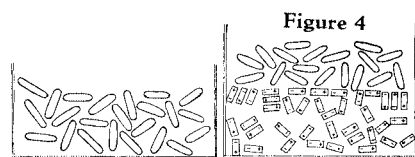

Figure 3
**T**HE molecules of which gasoline is composed are quite unlike those of water. While they are relatively long they have no positive nor negative poles. Hence, they are called non-polar molecules. For convenience they may be pictured thus:  $\boxed{\phantom{+ -}}$ . There is no attraction between molecules. Each leads a solitary life, though their greater weight forces them to remain close together as a liquid. Each molecule dances alone, frequently rubbing shoulders with his neighbors but bouncing off again to continue the everlasting solo dance. As heat is added and the dance tempo increases, the solitary dancers with no partners to hold them back are easily whirled off into space. Consequently, gasoline vaporizes rapidly and has a low boiling point. Likewise, because of lack of desire to group up, it is not easy to "freeze" the molecules in position. The dance tempo must be greatly slowed down before the molecules quit moving about to take up fixed positions. Hence, the freezing point of gasoline is lower than that of water. Figure 3 illustrates the conditions